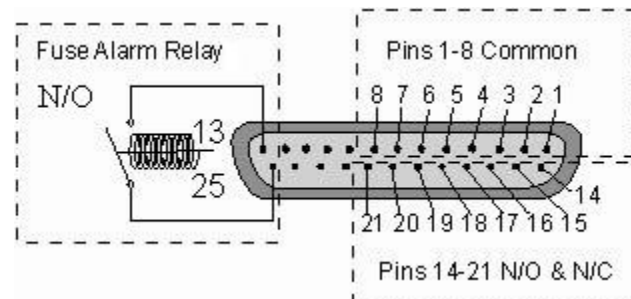

Fig. 2.3.7. The Fuse Alarm relay is found on pins 13 and 25, and the Control Relay pins are numbers 1-8
The fuse alarm relay is Normally Open. If the fuse blows, the fuse alarm (FA) LED will light and the fuse alarm relay (FA RLY) will de-energize (close). The relay is found on pins 13 and 25 of the DB 25 connector on the back panel. Connect these pins to other alarm monitoring equipment to give visibility of an equipment failure (see Figure 2.3.7 below). Refer to Table 2.3.7 for pinout information.